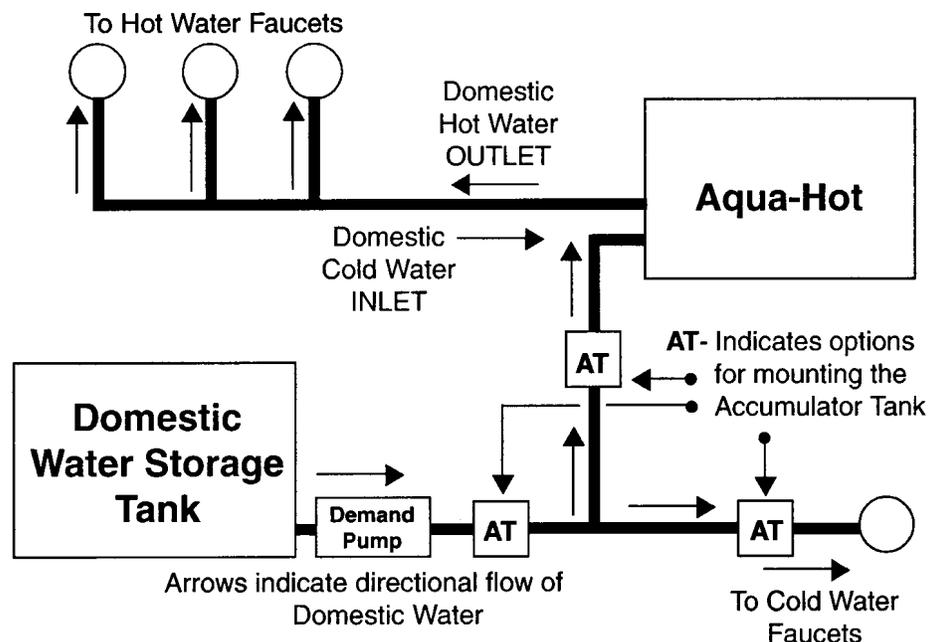

Figure 17
**NOTE:** Be sure to install an accumulator tank in the domestic cold water supply line, on the output side of the demand pump, see Figure 17.